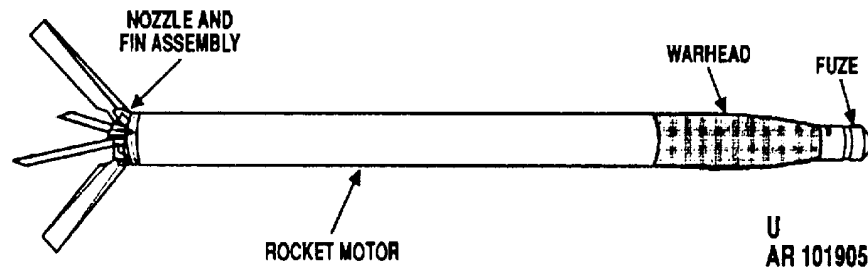

Figure 2-1. Typical Complete Round LSFFAR
The 2.75-inch LSFFARs are air-to-ground rockets (fig. 2-3) designed for deployment from rotary-wing and other low-speed aircraft. Provided with a variety of warheads, 2.75-inch rockets have a wide tactical application with high point-target effectiveness. In addition, the multipurpose submunition (MPSM) warheads are capable of saturating a target area, thus increasing hit probability against discrete target elements. Except for the practice warhead WTU-1/B, which is unfuzed, a complete round 2.75-inch rocket consists of a fuze, a warhead, and a fin-stabilizer rocket motor. The type of warhead with which a round is assembled determines the classification of the complete round (as antipersonnel, high explosive (HE), high explosive antitank (HEAT), MPSM, smoke, flare, or practice). See figures 2-1 through 2-5. The warheads using the MK66 rocket motor are spin stabilized, wrap around fin aircraft rockets.